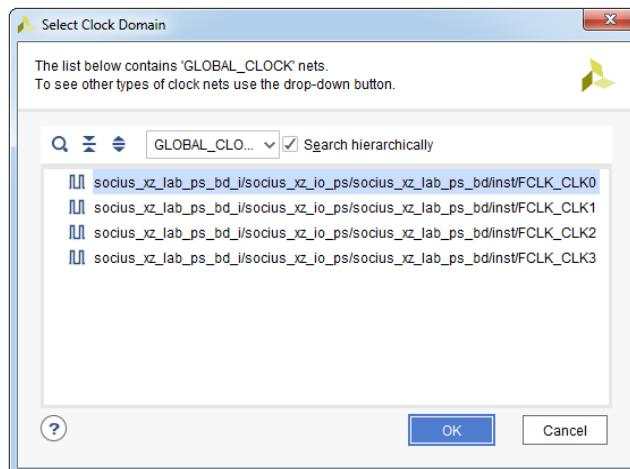

Figure 11.26: Select Clock Domain dialog box
25. In the **Select Clock Domain** dialog box modify clock domain as needed, see Figure 11.26. Be aware that each clock domain present in the table results in a separate ILA v6.2 core instance.